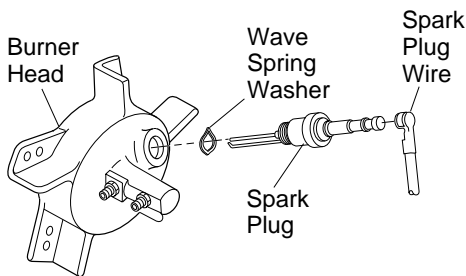

Figure 12 - Spark Plug Removal
3. Remove spark plug wire from spark plug (see Figure 12).